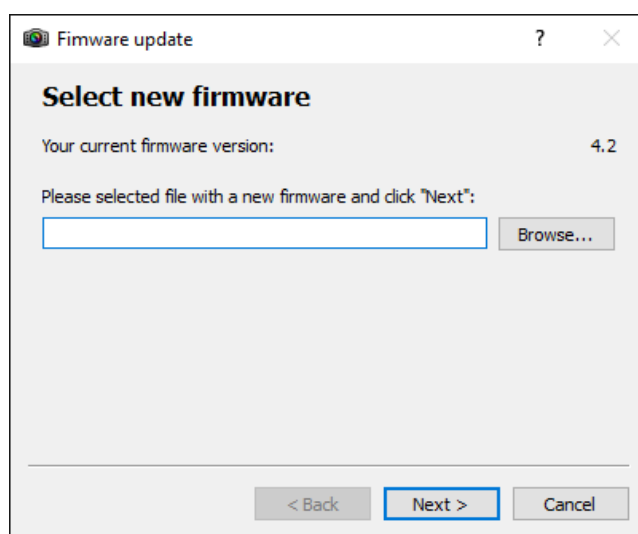

Figure 29 – Firmware update selection window
2. Click the "Browse..." button, as shown in Figure 29, and select the desired firmware update file, in accordance with the device chosen (.bin file extension), and Click the "Next >" button